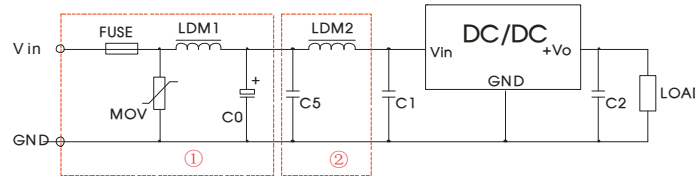

Fig. 5 Recommended compliance circuit
RE	CISPR32/EN55032 CLASS B (see Fig. 5-② for recommended circuit)
Note: For EMC tests we use Part ① in Fig. 5 for immunity and part ② for emissions test. Selecting based on needs.